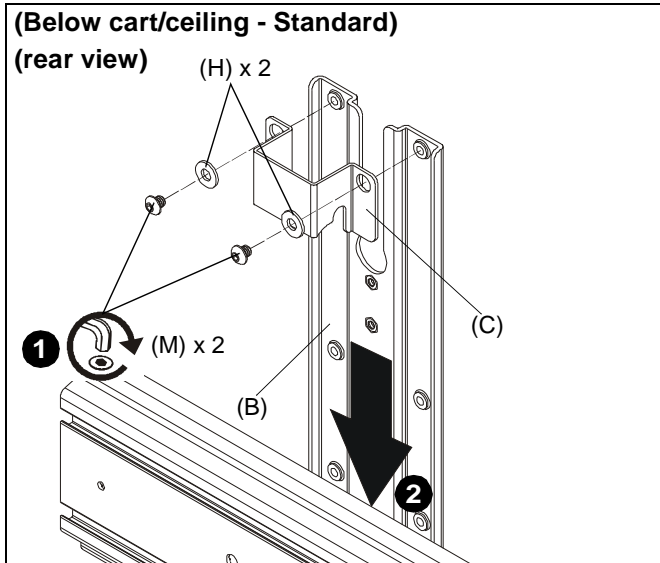

Figure 8
1. Use two 1/4-20 x 1/4" button head cap screws (M) and two large washers (H) to secure shelf bracket (C) to main bracket (B). (See Figure 8)
2. Slide main bracket (B) onto front of cart/ceiling mount head assembly until shelf bracket (C) rests on top of head assembly. (See Figure 8)